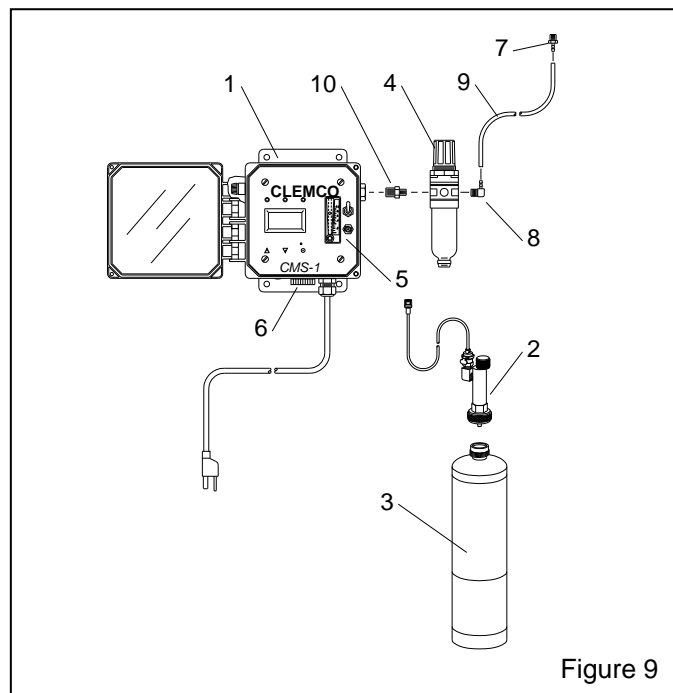

Figure 9
9.2 Replacement Parts, Figure 9